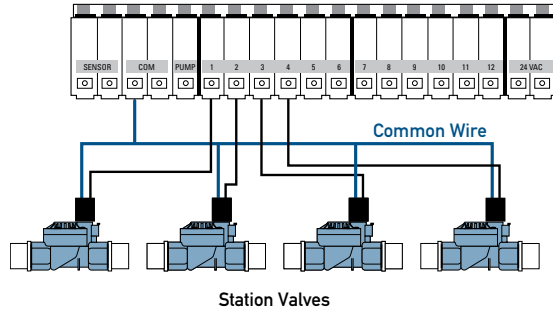

Figure 7: Connecting Sprinkler Wire
**IMPORTANT:** The wire can be buried in the ground. However, for greater protection, wires can be pulled through conduit and buried underground. Be careful to avoid burying the wires in locations where they could be damaged by future digging or trenching. (See Figure 7)
- Determine which valve you want to connect to which station. Using a phillips screwdriver to depress the terminal button insert each sprinkler wire, excluding the "common" wire, into a separate station terminal (grey in color) by inserting the bare wire fully into the terminal under each number. (See Figure 7)